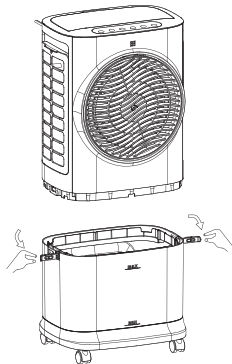
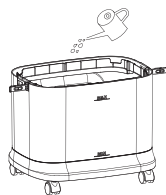

Figure 3
Figure 4
- To fill the Water Tank, unclip the locking tabs on the sides of the water tank to separate the main unit from the water tank, and add water into the tank (Figure 3, Figure 4).